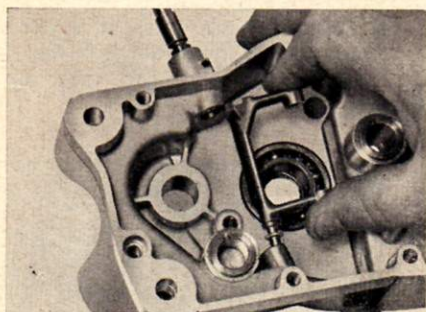

Fig. 32 Removing gear selector fork
- c) and lifting the selector fork and washer out of its bottom bearing as illustrated in fig. 32.